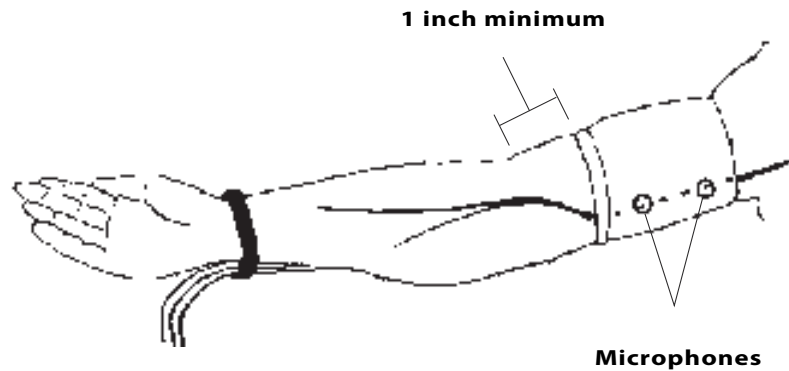

Figure C-3: Positioning and securing the cuff
4. Ensure that the bottom of the cuff is at least one inch above the bend in the elbow (Figure C-3).
- ◆ Use the wrist strap to secure the microphone cable/cuff tube to the patient (Figure C-3). The wrist strap should always be used to help secure the tube to the patient. This minimizes the noise caused by the ‘bouncing’ of the tube during exercise. Using the wrist strap can greatly increase the accuracy of the BP412 and cut down on errors.